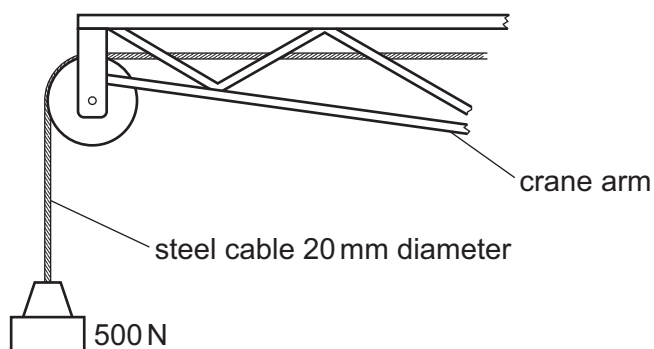

Fig. 9.5
- (f) Fig. 9.5 shows a steel cable on a crane arm with a load attached to it. A 15 m length of cable is found to stretch by 2 mm when the load is raised.